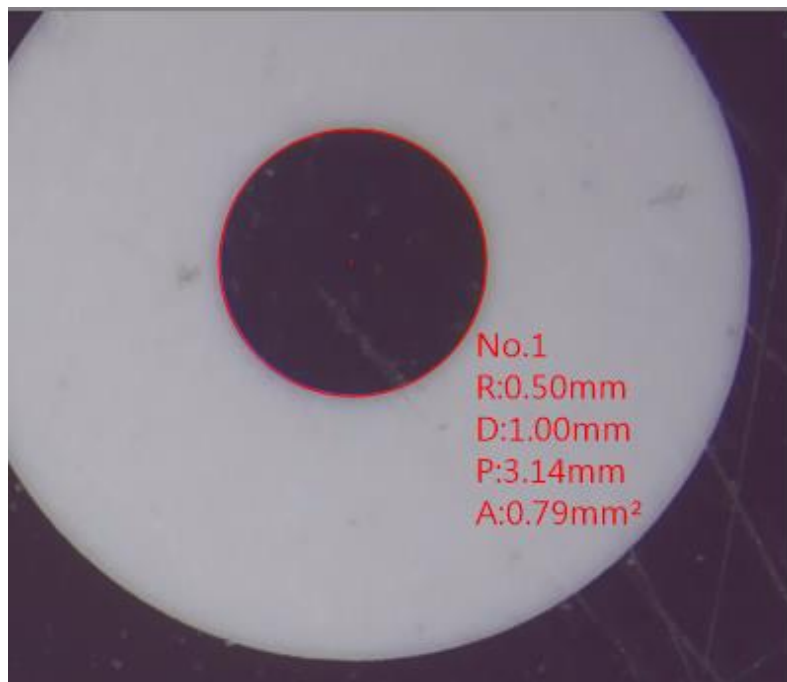

Fig 5-8 2 Point Circle
- (8) 2 Point Circle : The object is circle that can apply  tool. Point 1st point on the edge of object, press and drag the left key of mouse toward 2nd point on the edge of object, that automatically draw a circle. In the Fig. 5-8, Radius is $R=0.5\text{mm}$, Diameter is $D=1.00\text{ mm}$, Perimeter is $P=3.14\text{mm}$ and Area is $A=0.79\text{mm}^2$.